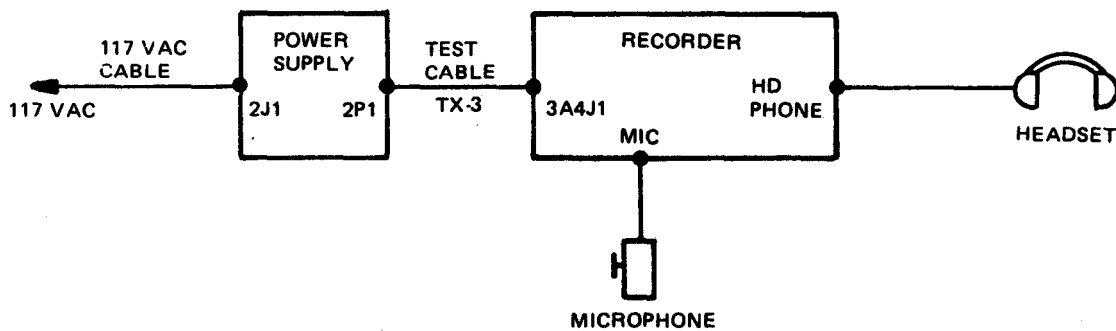

Figure 3-6. Recorder, Electromechanical, Equipment Setup
- (1) Remove recorder housing, refer to paragraph 3-25.
- (2) Connect equipment as shown in figure 3-6.
- (3) Insert blank cassette into recorder.
- (4) Perform procedure listed in table 3-2.